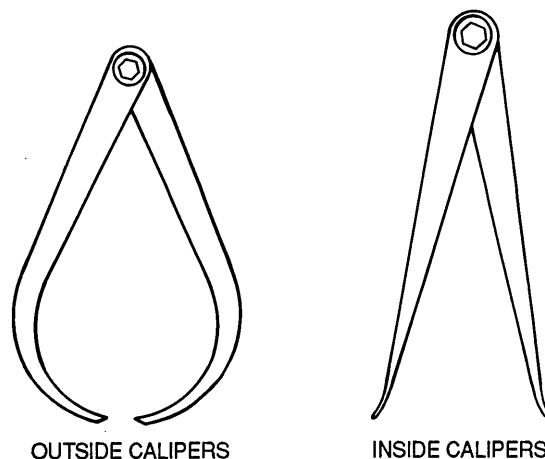

Figure 3-24. Simple Calipers
(1) **Simple calipers.** The simple outside calipers are bowlegged. Those used for inside diameters have straight legs with feet turned outward. Calipers are adjusted by pulling or pushing the legs to open or close them. This type is shown in figure 3-24.